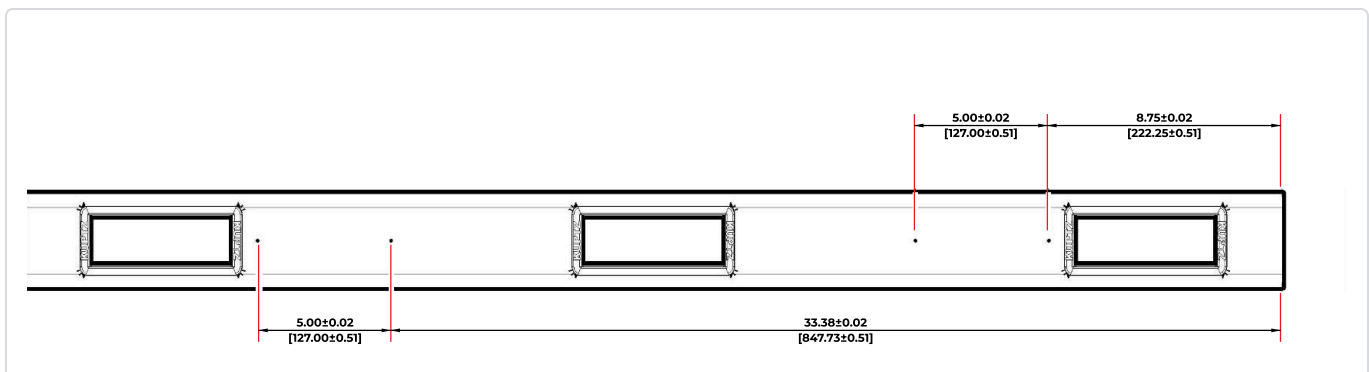

FIG. 7.1 – HINGE HOLE LOCATIONS AND SPACING ON THE POST.
- 2** Measure the holes according to Fig. 7.1. Tip: to find the centerline of the post, hold or clamp a board onto the wide side of the post, butt your tape measure to the board, and measure from there.